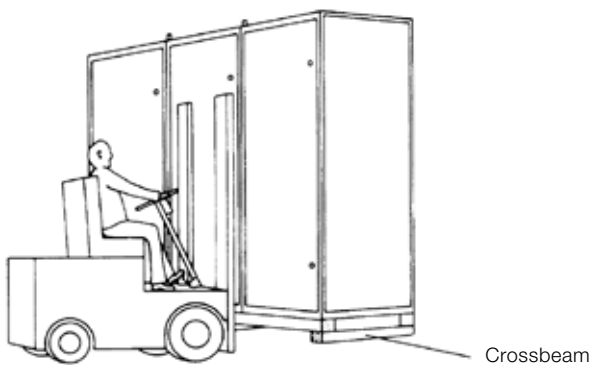

Fig. 16 Fork-lift transport
- If necessary, by means of rollers (min. 3 pieces). For roller transport, the wooden crossbeams must be removed (only for cubicles with transverse sections up to 1200 kg) (see fig. 16).